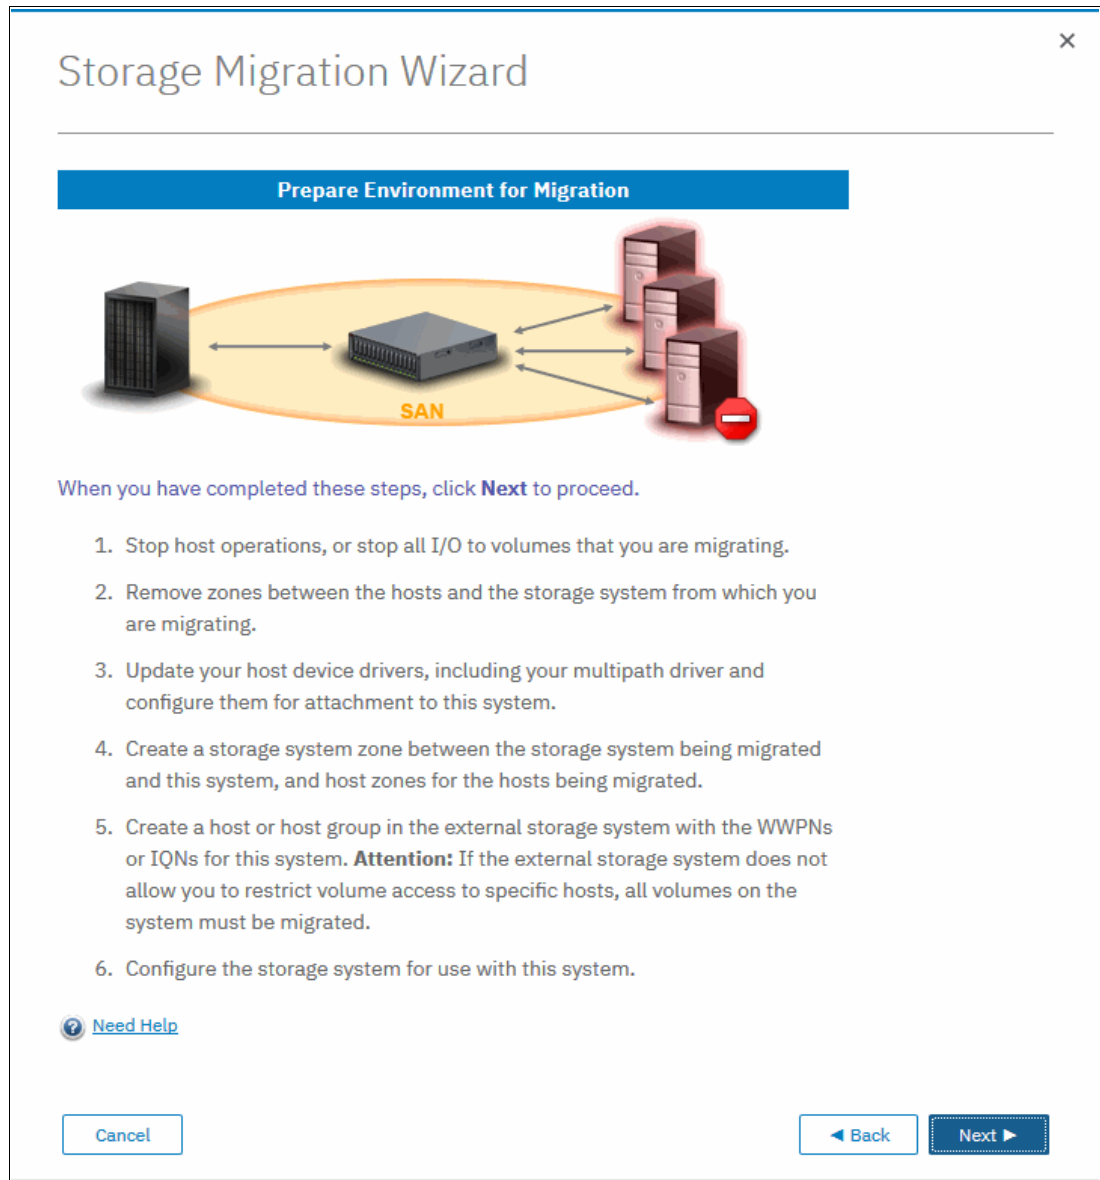

Figure 7-15 Prepare the migration environment
- ▶ The subsequent windows in the migration wizard, as shown in Figure 7-15 on page 370, direct you to remove the host zoning to the external storage and create zones between the Storwize V5000 Gen2 and the external storage. However, these steps must be performed *before* you start the wizard.
Figure 7-15 shows the Prepare Environment for Migration window. Carefully follow the instructions that are provided here. When all of the required tasks are complete, click **Next**.